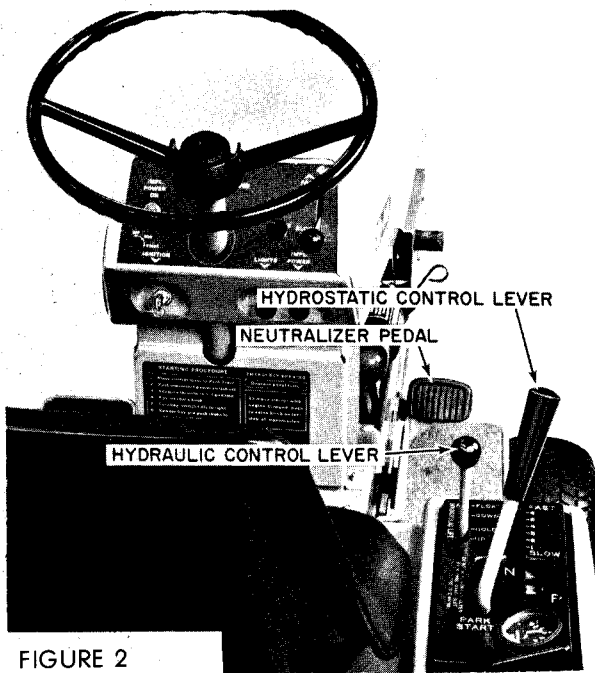

FIGURE 2
Hydraulic Control Lever (8 - Figure 2). (Models S-14 and S-16 only). This lever controls the hydraulic system used to raise and lower attachments. The lever has four positions — UP, HOLD, DOWN and FLOAT. The normal out-of-use position is the "HOLD" position, whereby the hydraulic cylinder is locked so that the attachment will not raise or lower. When it is desired to raise the implement, move the lever to the "UP" position; to lower the attachment move the lever to the "DOWN" position. Place the lever in the "FLOAT" position to allow the attachments to follow the ground contours.
Ammeter (9 - Figure 2). The ammeter indicates the rate of battery charge or discharge. The indicator should register on the (+) side of the dial when the engine is running at any speed above a slow idle. When the engine is idling or with a fully charged battery, the ammeter may not show charge. Should the ammeter register on the (-) side of the dial for an extended period of time with the engine running, it indicates the alternator is not charging the battery. Check the battery connections or contact your dealer.
Hydrostatic Control Lever (10 - Figure 2). This lever regulates both tractor speed and direction.
Neutralizer Pedal (11 - Figure 2). When this pedal is depressed the hydrostatic control lever will return to neutral and stop the forward or reverse motion of the tractor. KEEP FOOT OFF PEDAL DURING NORMAL OPERATION OF WHEN MOVING THE HYDROSTATIC CONTROL LEVER. The pedal is intended only as an optional control for emergency stops. Use of the pedal and a hydrostatic control lever simultaneously can result in misadjusted hydrostatic linkage.
To stop the tractor, gradually return the hydrostatic control lever (10) Figure 2, to neutral (N). Then place the control lever in the "Park-Start" position.
1. Move the hydrostatic control lever (10) Figure 2, in "Park-Start" position.